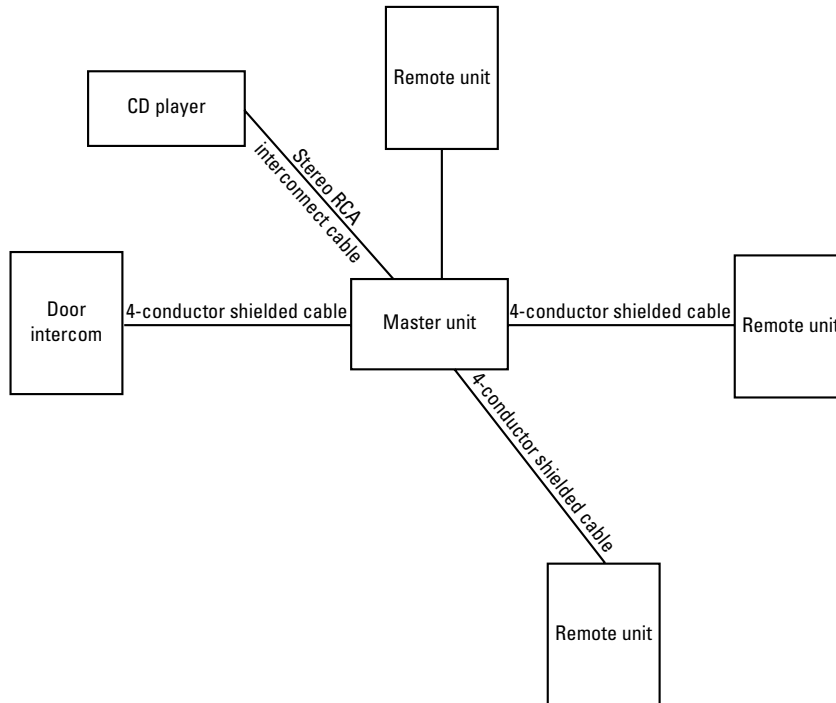

Figure 5-3:
- ✔ **Wired systems:** As the name implies, these intercoms are wired together and send your voice as an electrical audio signal between rooms. Wired intercom systems run the gamut from simple voice systems to advanced audio systems that can also carry radio and other audio signals. Figure 5-3 shows a typical wired intercom system. Some telephone systems have intercom systems; these are covered in more detail in Chapter 10.